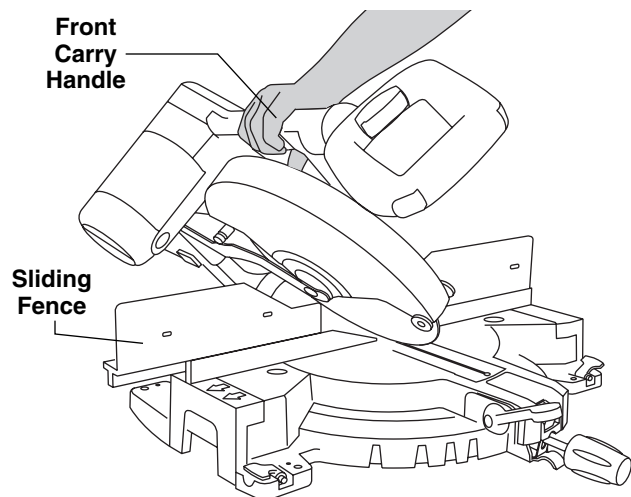

Figure 2.
- Extend left sliding fence to clear saw assembly and re-lock (Figure 2).
- Grasp the front carry handle with right hand and tilt saw head to angle desired (Figure 2).
- Extend right sliding fence to clear saw assembly and re-lock (Figure 2).
- Standing on right side of saw, grasp the front carrying handle with right hand and tilt saw head slightly to the left while rotating the bevel range selector knob with left hand to “0-45° Right” (Figure 2).
- Move left or right sliding fence to clear saw assembly and re-lock (Figure 2).
slightly to the left while rotating the bevel range selector knob with left hand to "Max Range" (Figure 2).